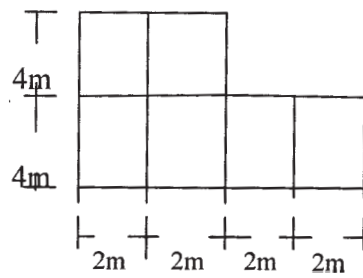

Figure 3.1
- Q3)** Determine the design eccentricity in Y-direction for a three storey building as shown in Figure 3.1. The total seismic weight /floor = 450 kN. The column size = 400mm X 600 mm. Assume grade of concrete = M25. **[25]**